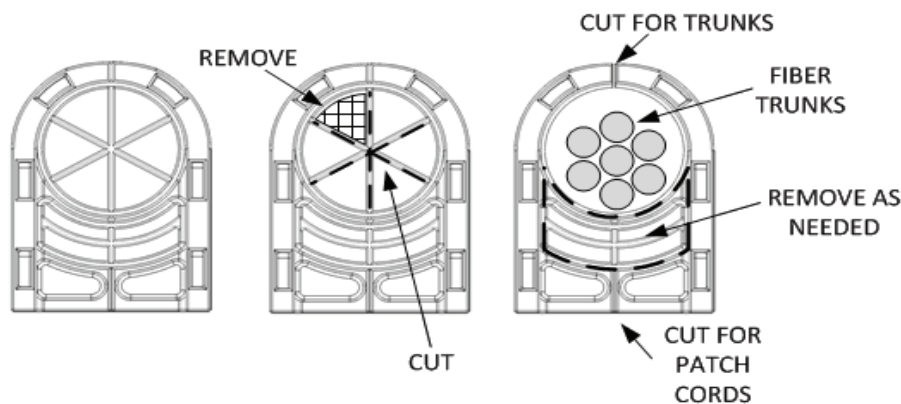

Figure 2
3. Using a sharp-edged tool, cut the appropriate opening in using the scored marking lines as shown in figure 2.